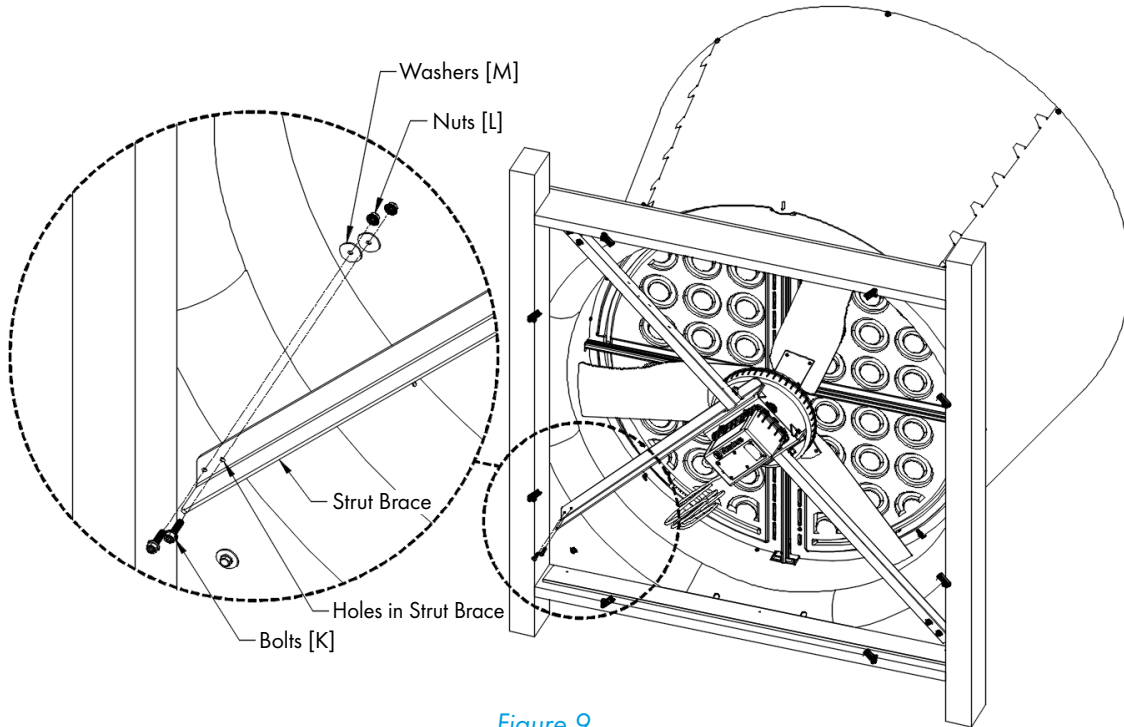

Figure 9
Where the bottom of the Strut Brace meets the Orifice Panel, use the 2 holes in the Strut Brace as a guide and drill (2) $\frac{5}{16}$ " holes through the fiberglass Orifice Panel. Secure Strut Brace to Orifice Panel using (2) Bolts [K], Washers [M] and Nuts [L]. See Figure 9.